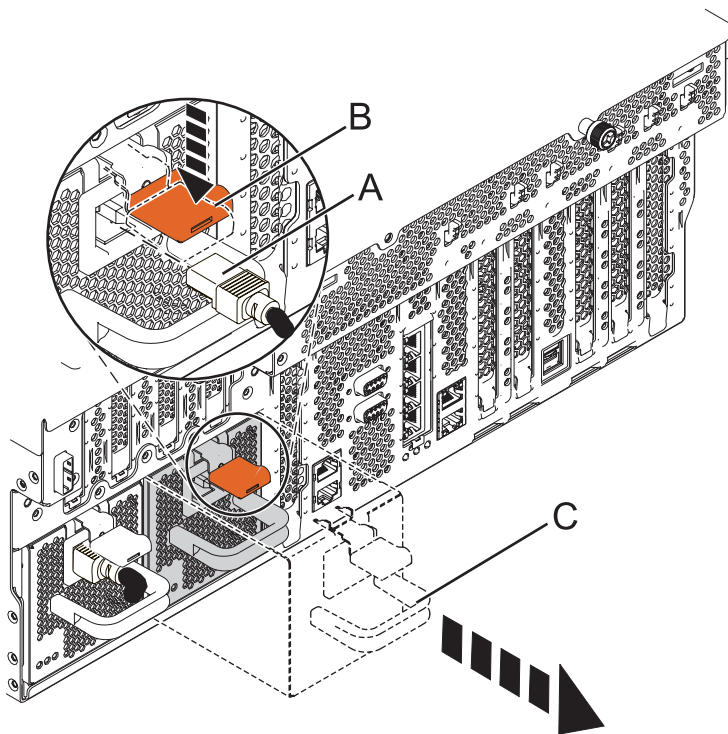

Figure 6. Removing the power supply
6. Disconnect the power cable (A) from the front of the power supply as shown in Figure 6.
7. Press down on the locking latch (B) as shown in Figure 6.